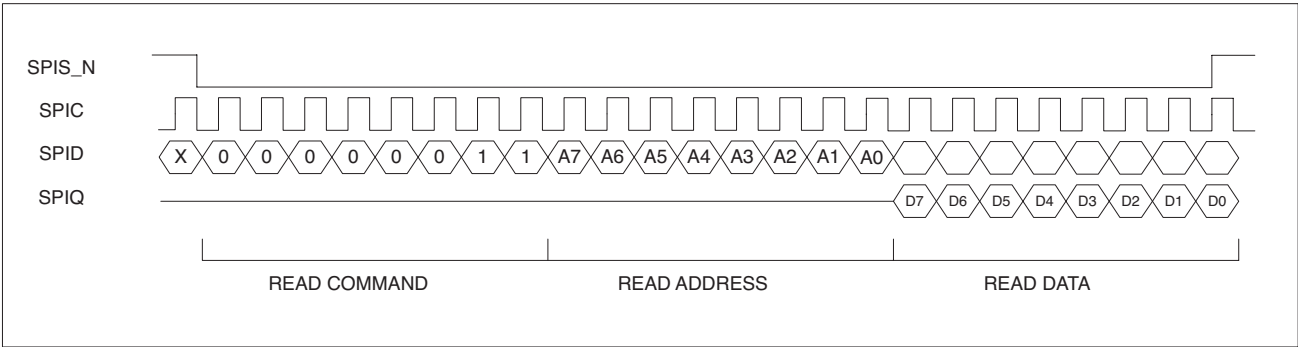
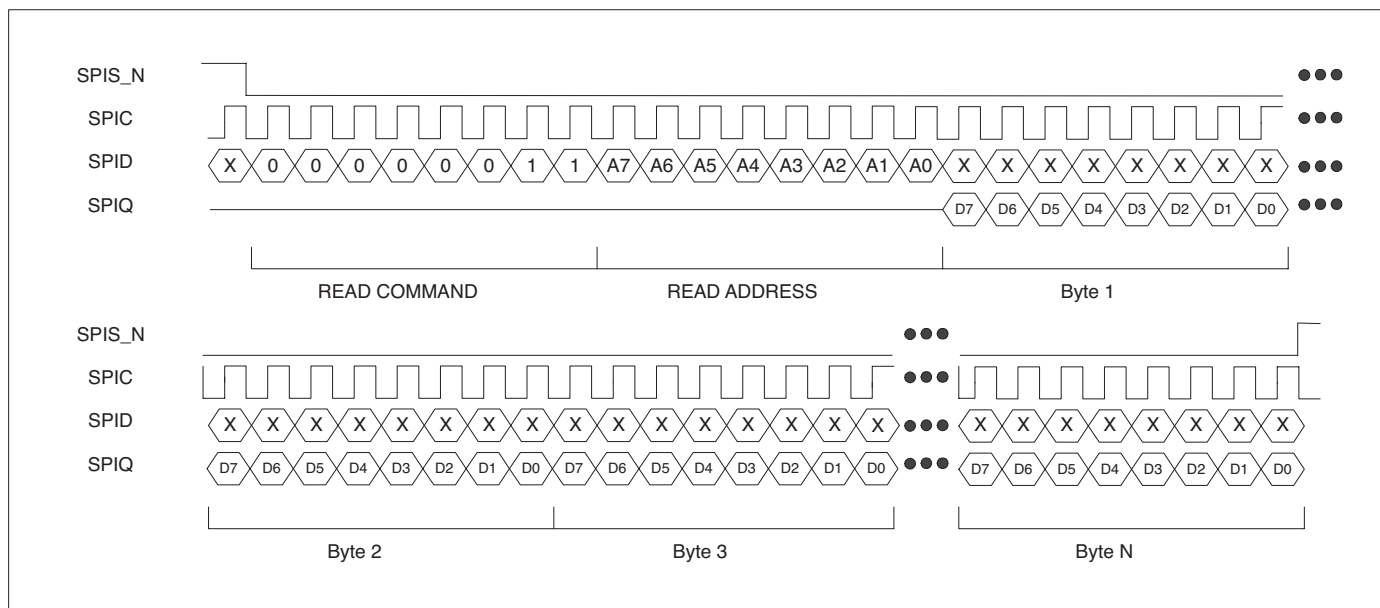

Figure 9. SPI Read Data Cycle
Figure 11. SPI Multiple Read
5. Registers can be read and configuration can be verified with a typical SPI read data cycle as shown in Figure 9 or a multiple read as shown in Figure 11. Note that read data is registered out of SPIQ on the falling edge of SPIC.